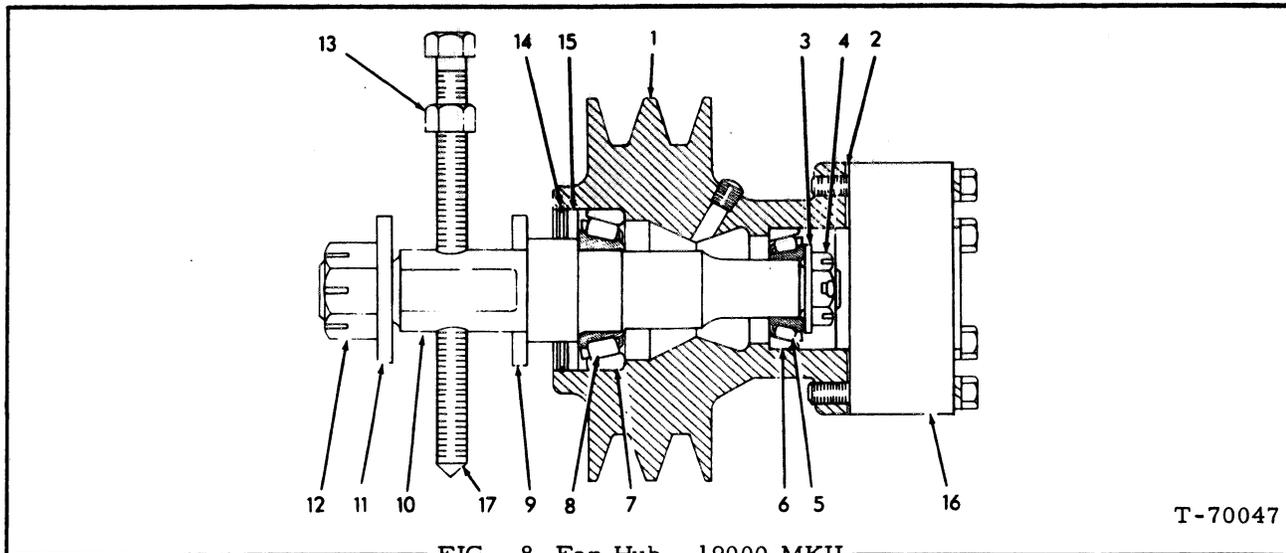

FIG. 8 Fan Hub - 19000 MKII
19000 MKII (FIG. 8)
3.9 FAN HUB ASSEMBLY AND INSTALLATION - 19000 MKII (FIG. 8)